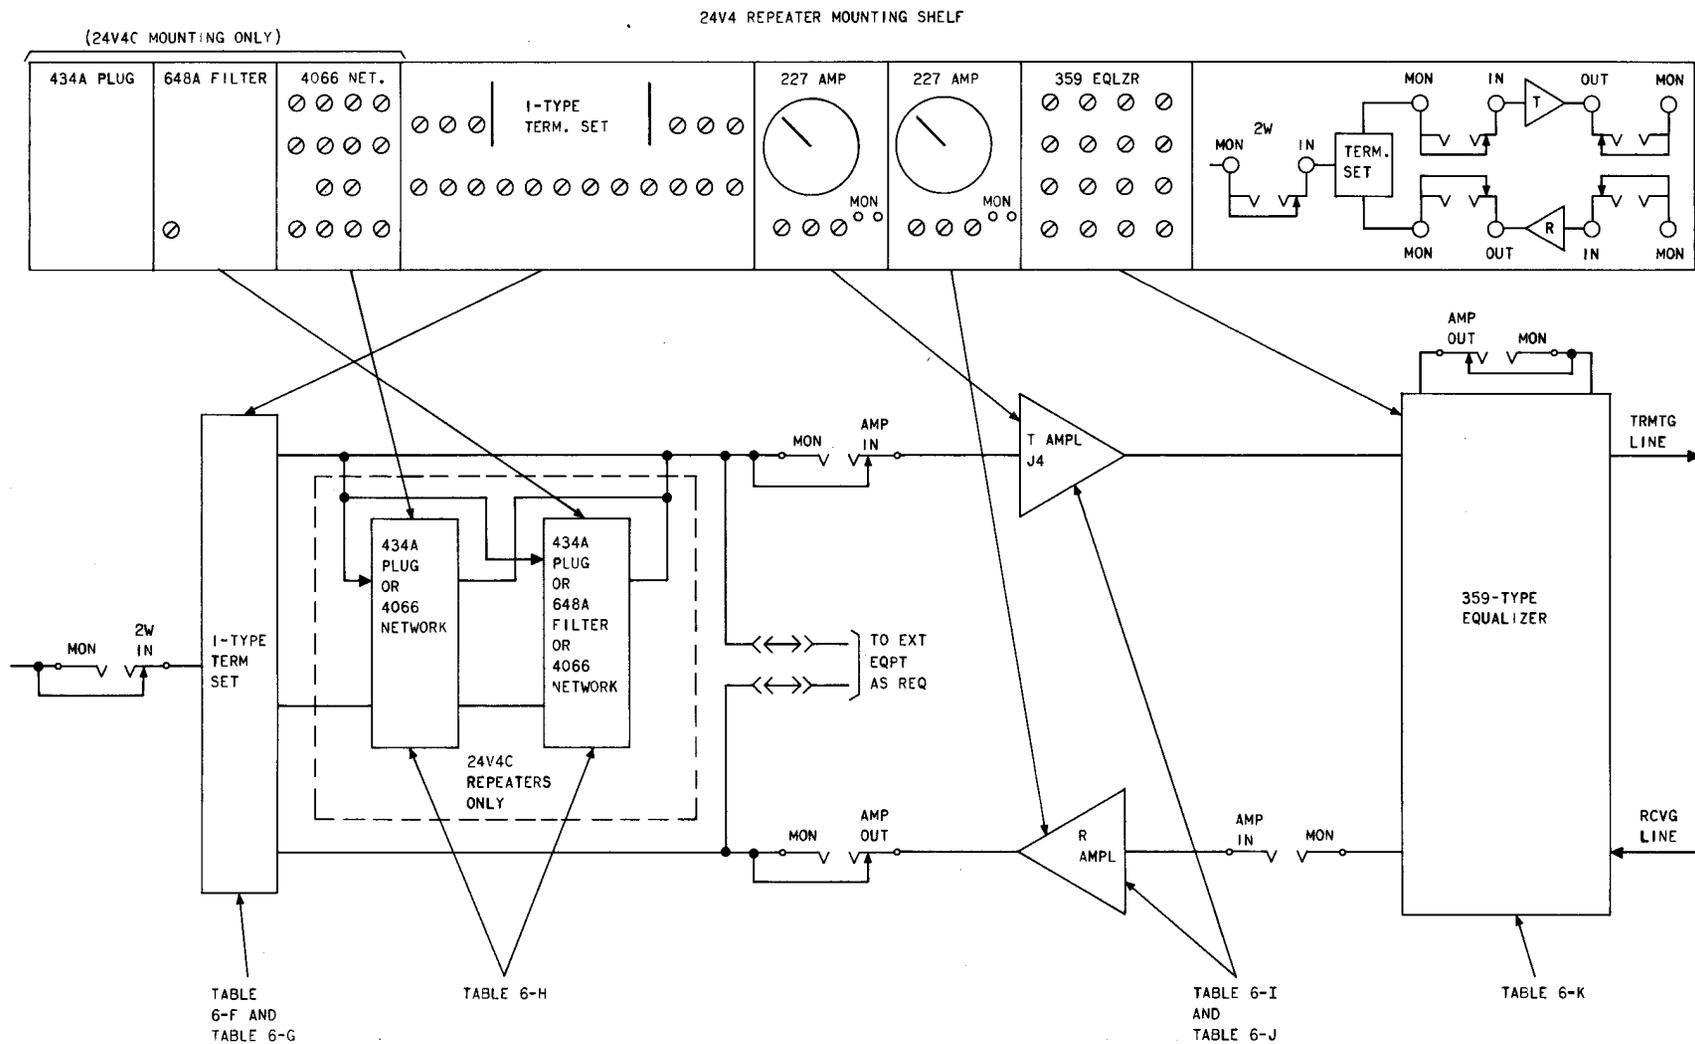

Fig. 6-45—Block Diagram of Typical 24V4 Repeater
**6.58 Description:** The V4 repeaters are divided into two basic types: 24V4 and 44V4. The 24V4 (A, B, C, and D mountings) are used at junctions of 2-wire and 4-wire circuits. The 24V4 may be located at a 2-wire customer location that is served from a long 4-wire loop. The 44V4 (A and B mountings) are used at an intermediate or terminal point in a 4-wire circuit. Figure 6-45 shows a block diagram of a typical 24V4 repeater. The plug-in components that make up the V4 repeaters are covered in the tables referenced on the figure. Figure 6-46 shows a block diagram of a 44V4 repeater. The same plug-in components make up the 44V4 as those for the 24V4 except the 44V4 does not contain a terminating set. V4 repeaters amplify and maintain proper levels of all signals in the voiceband, including 2600 Hz SF. DC signals such as supervision, dial pulses, and 20 Hz ringing are bypassed around the amplifiers on a separate simplex path.